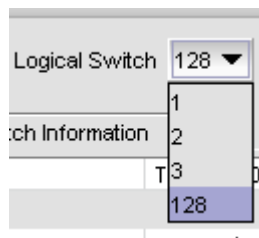

FIGURE 19 Logical switch selector
1. Use the **Logical Switch** selector to select the fabric ID, as shown in Figure 19.